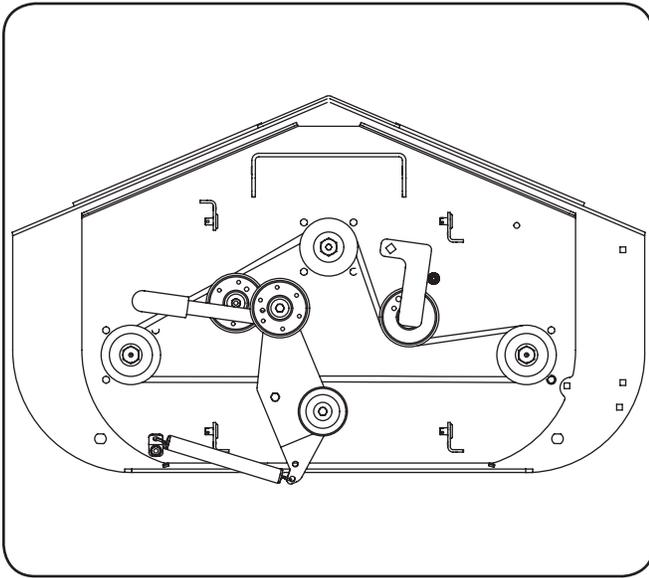

Figure 7-5
5. Reverse the process to install the belt. See Fig. 7-5 for proper belt routing.